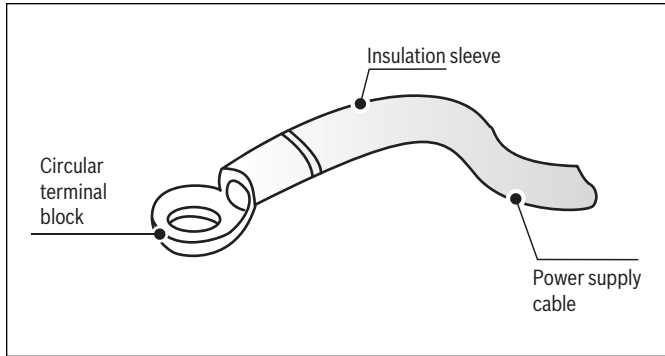
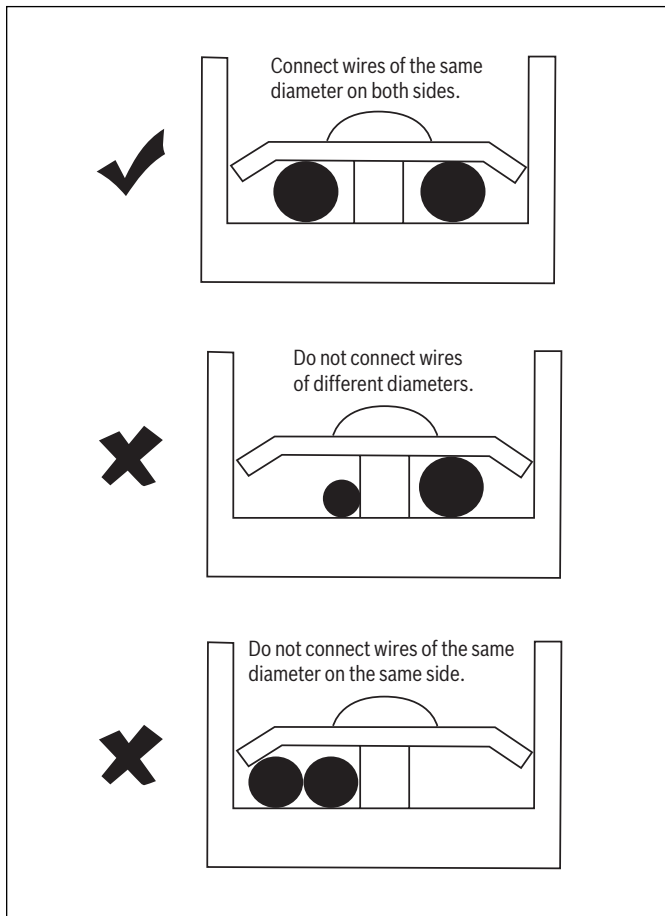

Figure 54
Figure 55
- Strip the power wire and crimp an insulated ring wire connector. Ensure the crimp is secure (see Figure 54). If unable to crimp due to field constraints, connect the power supply cables to the CN1 terminal block. When connecting the cables to the terminal, ensure the diameter of each strand is equal on either side of the individual screw terminal. Refer to Figure 55 for an example.